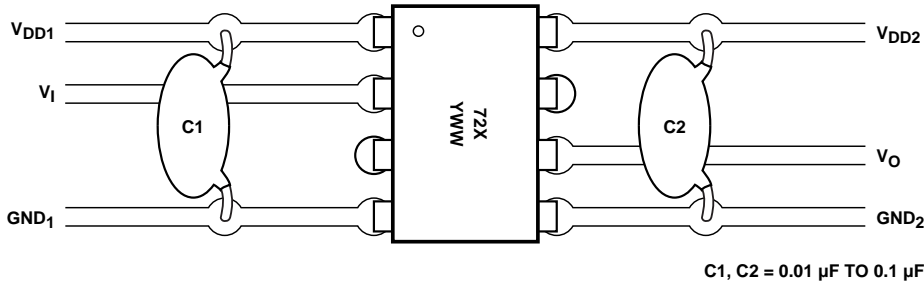

Figure 11. Recommended printed circuit board layout.
0.1  $\mu\text{F}$ . For each capacitor, the total lead length between both ends of the capacitor and the power-supply pins should not exceed 20 mm. Figure 11 illustrates the recommended printed circuit board layout for the HCPL-772X/072X.